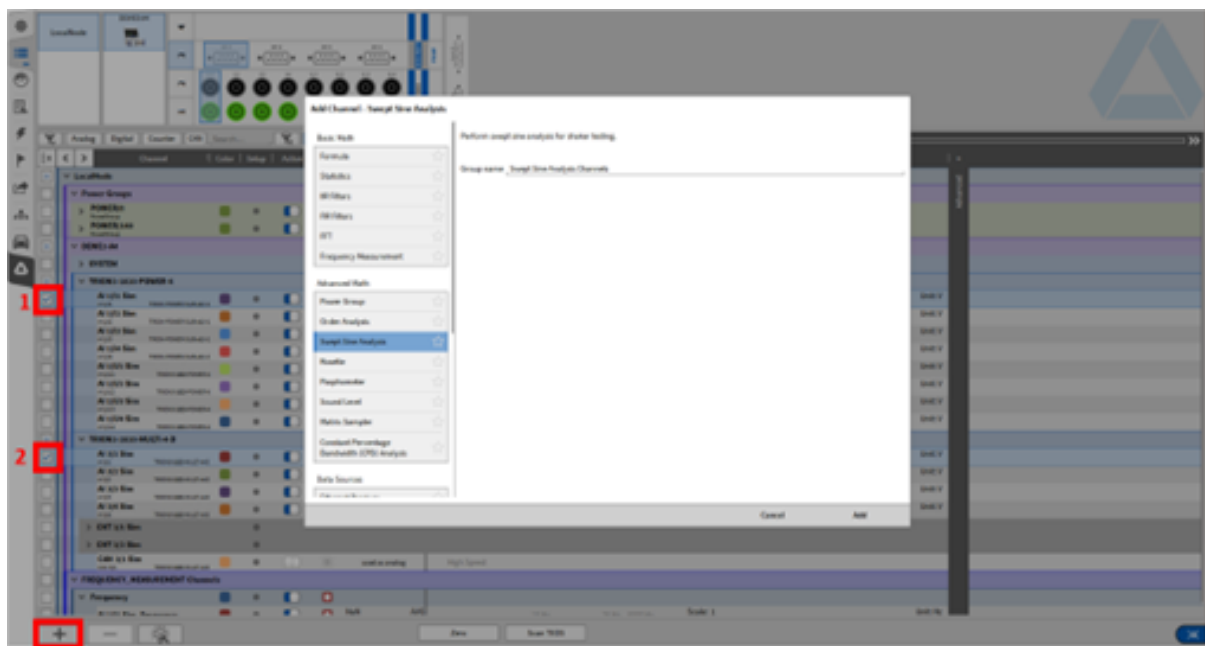

Fig. 7.136: Swept Sine Analysis
1. At first, mark the checkbox of the channel which provides the reference signal for the Swept Sine Analysis (see ① in Fig. 7.136)
2. Next, mark the channel that provides the signal measured on the signal sink (see ② in Fig. 7.136). Several sink signals could be applied to one Swept Sine Analysis group.
3. Click on the *PLUS* (see ③ in Fig. 7.136) sign to open the math setup and select *Swept Sine Analysis*. Edit the channel group name if desired and click on the *OK* button afterwards.